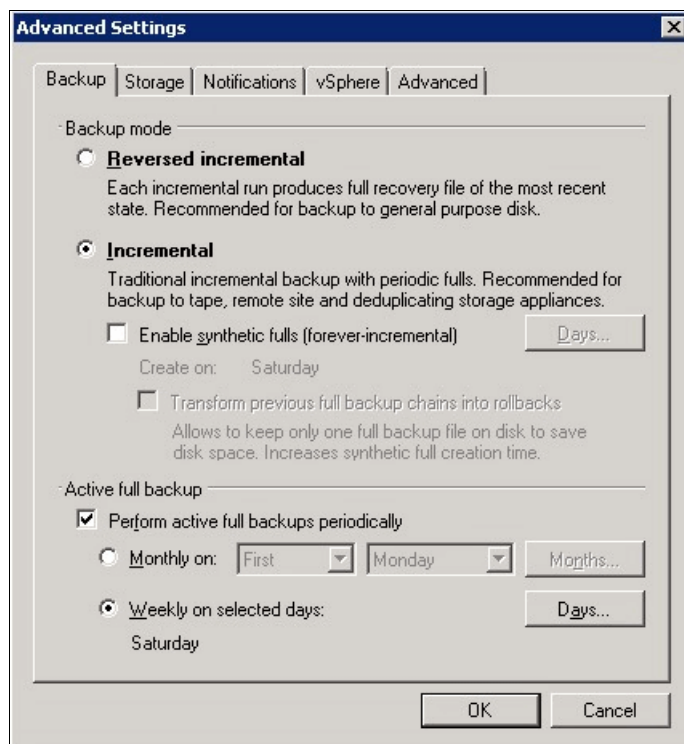

Figure 19-7 Setting incremental backup mode
5. Select the **Incremental** and **Perform active full backups periodically** check boxes, as shown in Figure 19-7.